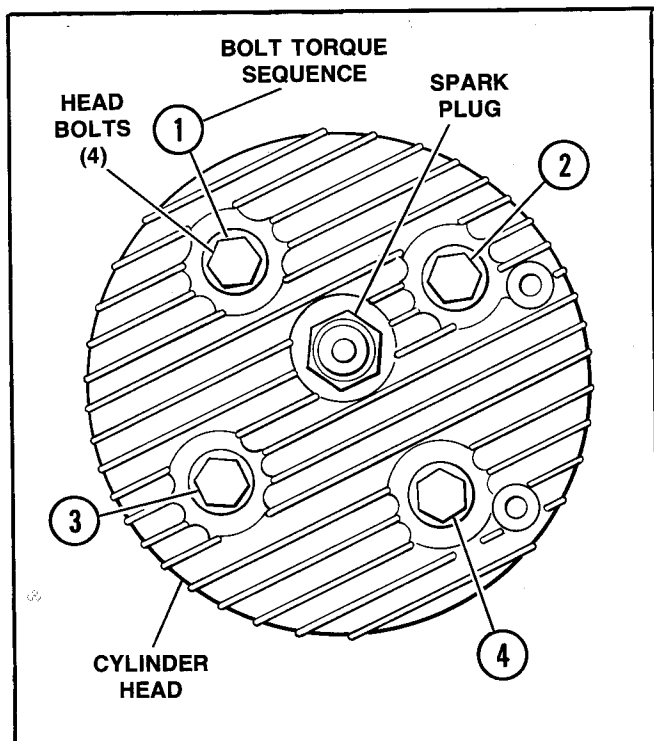

Figure 47 – Cylinder Head Removal
f. See Figure 47. Remove spark plug, cylinder head bolts and washers and cylinder head.